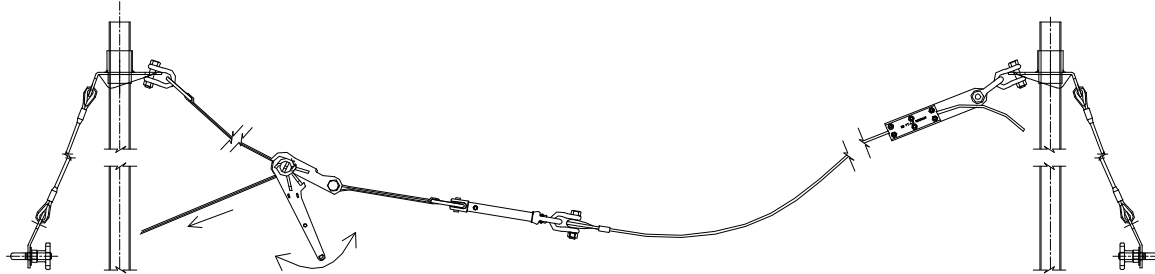

Figure 4
20. Begin lifting the horizontal lifeline cable assembly to its intended position (see Figure 4). If bypass stanchions are being used, the cable must be placed through the center of the bypass fittings before the cable is properly tensioned. Pass the free end of the ratchet strap into the slot of the ratchet. Pull the free end of the ratchet strap to help remove slack from the lifeline cable.